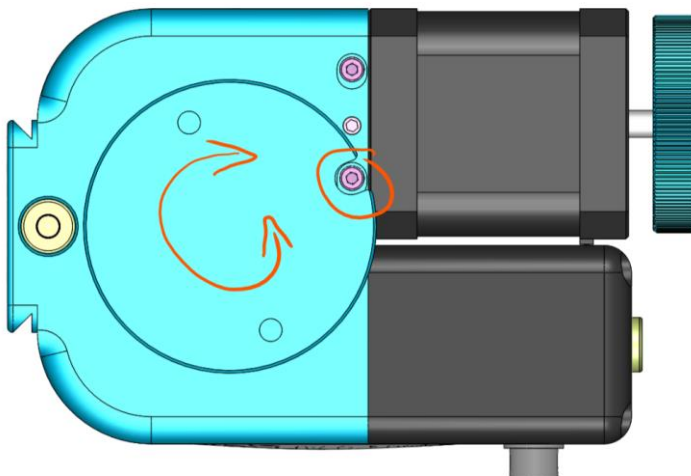

Fig. 2
3. turn the turntable by hand until you can see the clearance on the cheese head screw (Fig. 2).
11. when the play is outside, tighten the four cap screws (Fig. 2) to a maximum of 0.5Nm.
12. to secure the position, tighten the two grub screws (Fig. 2) to a maximum of 2.0Nm.